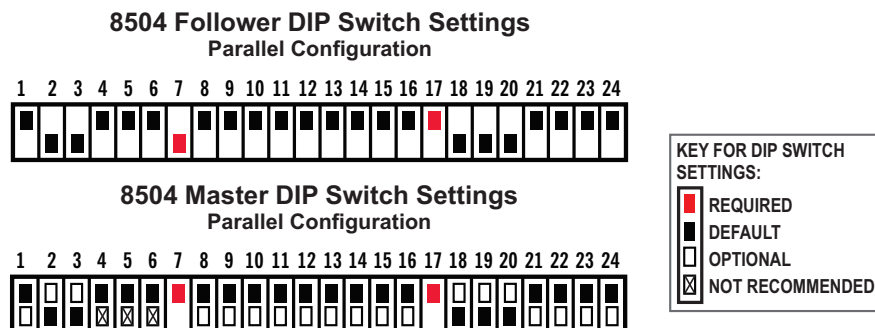

Figure 6.7 – Required DIP switch settings for parallel amplifiers
1. Refer to **Figure 6.7** to configure each amplifier's DIP switches for parallel operation. On the amplifier designated as Follower, **set DIP switch #7 in the DOWN (Follower) position.** On both amplifiers, **set DIP switch #17 in the UP (Electronic Gain Matching ON) position.** Note that other configuration settings controlled by DIP switches can also be selected before operation. In an 8504 multi-amp system, **all settings except for Control Configuration (SW#7) and Electronic Gain Matching (SW#17) are controlled by the Master amplifier.** For these additional configurations, setting of the DIP switches on the Follower amplifier is not required.